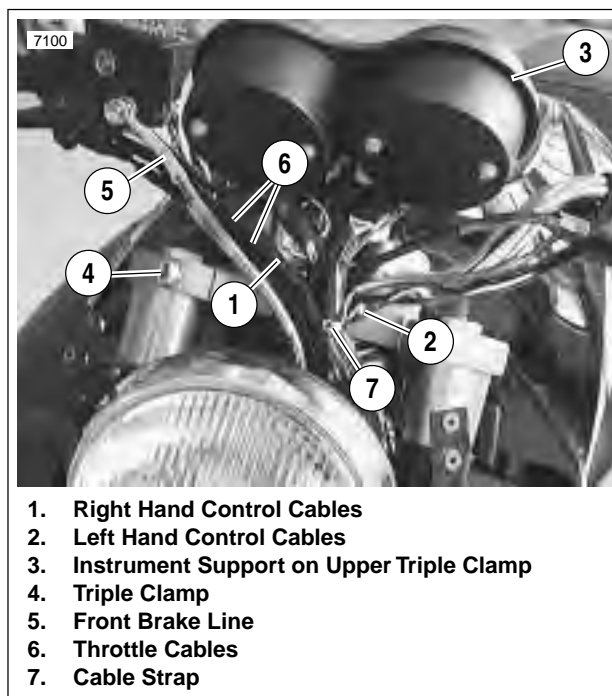

Figure 2-103. Routing Hand Control Wires
- b. Tighten both front screws (1) to 10-12 ft-lbs (14-16 Nm).
- c. Then tighten both rear screws (2) 10-12 ft-lbs (14-16 Nm).
- a. See Figure 2-103. Route right hand control wires (1) in front of handlebar and triple clamp (4).
- b. Route left hand control wires (2) in front of handlebar and triple clamp (4).